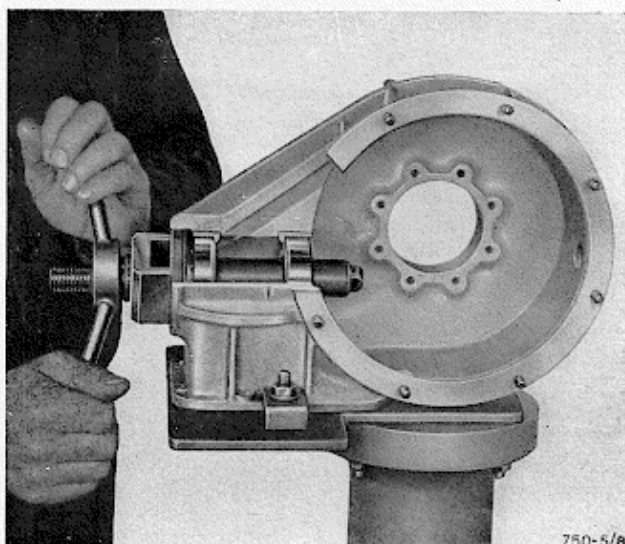

Fig. 8 - Withdrawal of the bevel pinion oil seal, using tool 6121.04.015
- remove the propeller shaft fork, pull the pinion out of its housing and, with tool 6121.04.015, withdraw the oil-sealing ring together with the inner race of the outer bearing (Fig. 8);